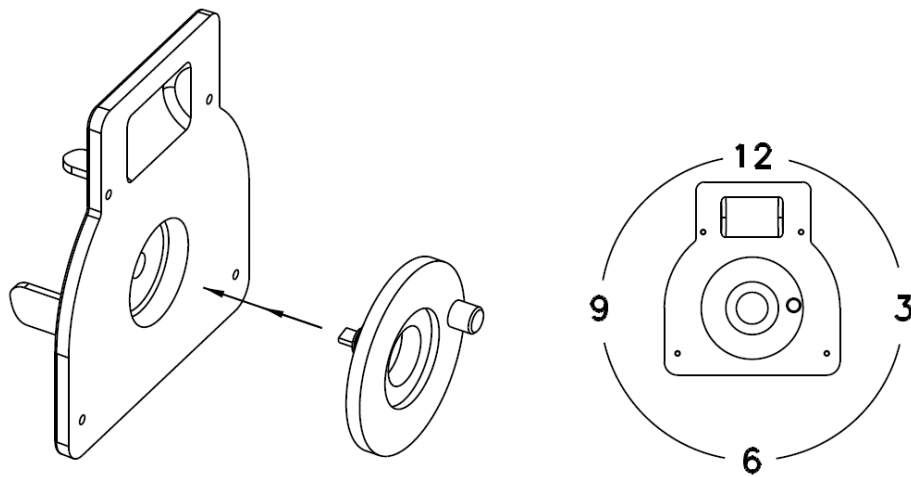

Fig. 2
7. Reinstall the sensor actuator shaft (Item #5) to the gearcase cover (Item #4) by positioning the two parts relative to each other as shown in Fig. 2. With the sensor actuator shaft pin at the 3 o'clock position and the worm gear pocket of the gearcase cover at the 12 o'clock position press them together. The parts may stay together, if not, hold them together and go on to step 14.